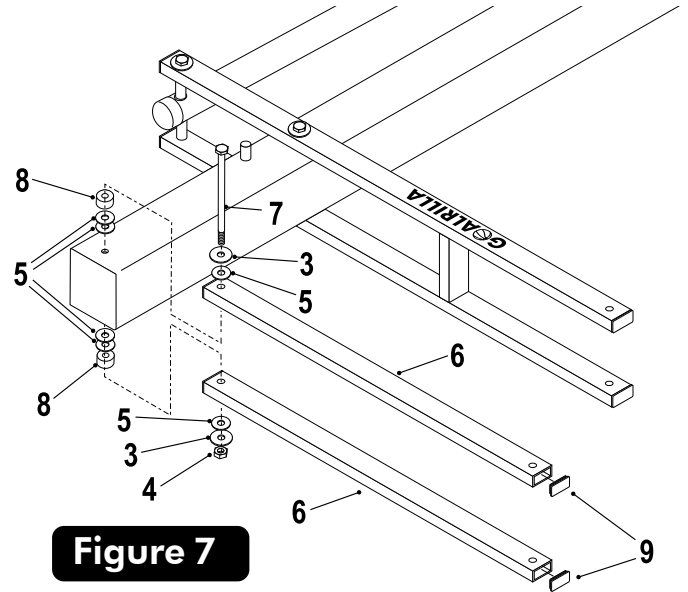

Figure 7
- Attach Upper Arms (#6) to Pole (#2), as shown in Figure 7, using a bolt (#7), two flatwashers (#3), six plastic washers (#5), two spacers (#8) and one hex nut (#4).